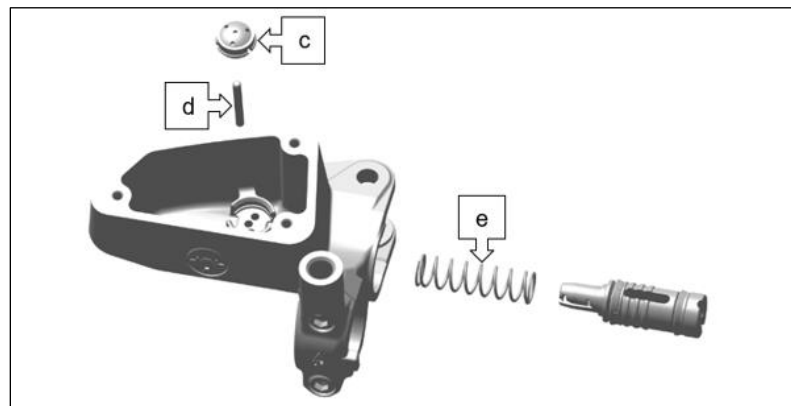

Fig. 4
5. Extract the brake fluid and pry out the screen (Fig. 4 – c).
6. Push the piston slightly in by hand and pull out the locking pin. A pair of needle nose pliers is suitable for pulling out the locking pin. Let the piston slide out slowly. (Fig. 4 – d).
7. Remove the return spring. (Fig. 4 – e).